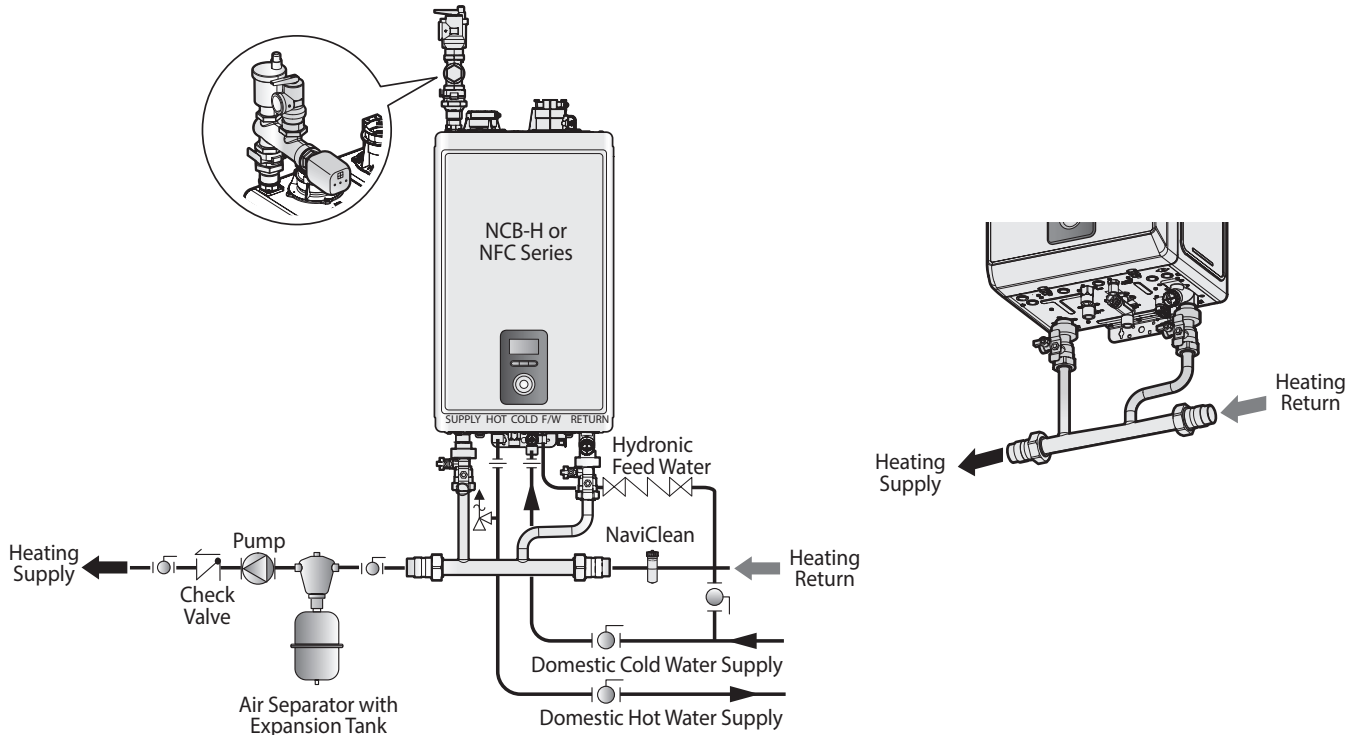

FIGURE 2. Manifold Piping Setup with Accessories
- Install any required accessories such as an air separator, expansion tank, check valve, etc. on the heating supply side as illustrated in FIGURE 2 below.